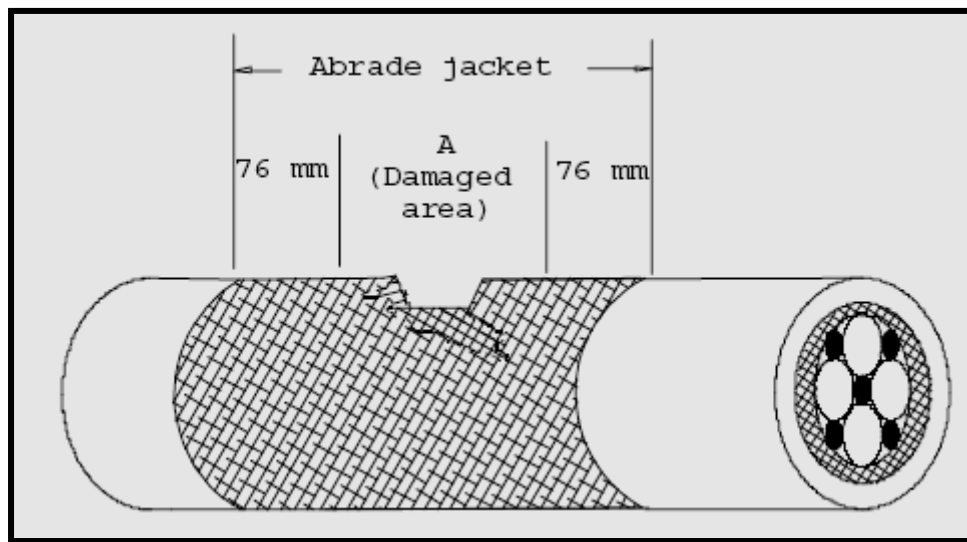

Figure 2-94. Cable Preparation
**NOTE 1:** Refer to figure 2-94 for a definition of A and B dimensions.
**Step 3** - Abrade the jacket circumferentially to the dimension shown using emery cloth or a fine file (see figure 2-94).